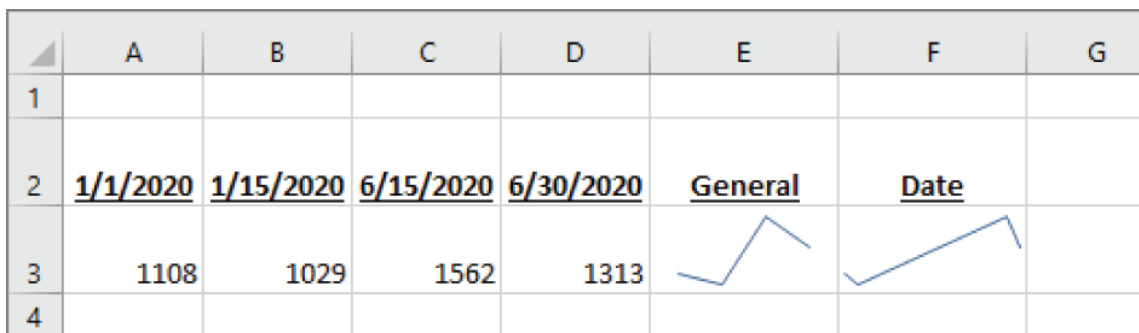

Figure 5.33: Comparing the General and Date Axis Types
- **Date Axis Type:** With this type, the horizontal axis values are assumed to be dates, and they are spaced according to the number of days between values rather than equally. Figure 5.33 shows the two Sparklines from the same data. One is set to General Axis Type and the data points are equally spaced, and the other is set to Date Axis Type and the data points are spaced according to the values.